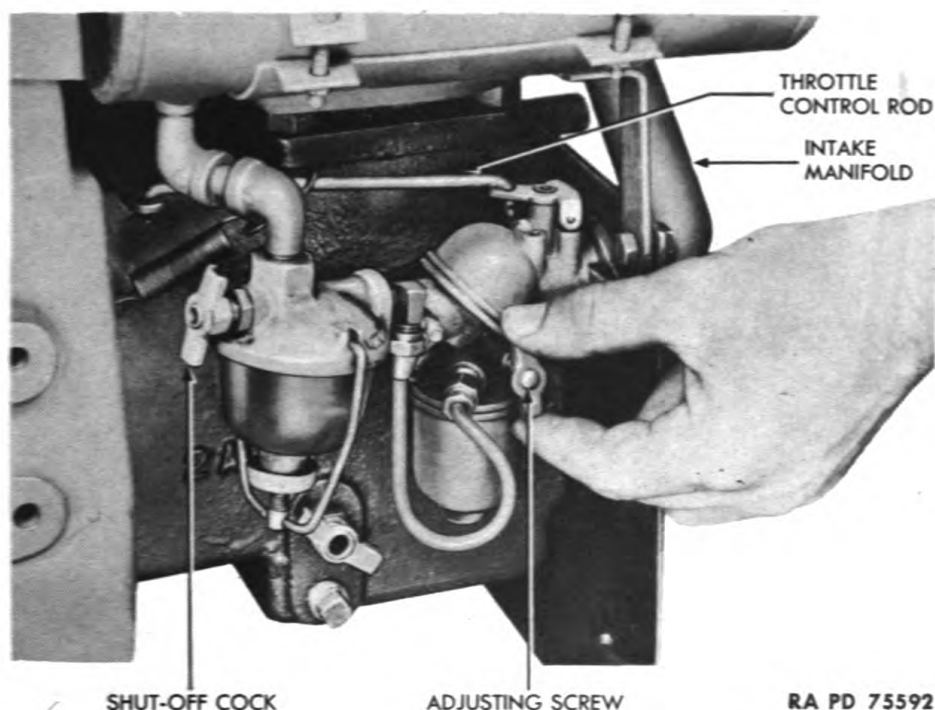

Figure 80 — Adjusting Diaphragm Pump Engine Carburetor
(1) ADJUSTMENT OF CARBURETOR (fig. 80).
(1) Place engine on frame to rear of normal position. Push engine forward, toward gear box, until splined shaft is engaged and the hold-down bolt holes of engine and frame are alined.
(2) Install the four cap bolts, lock washers, and nuts which secure engine to frame.
(3) Install the three lock washers and cap screws which secure engine to gear box.
g. Removal of Carburetor (fig. 80).
(1) Disconnect throttle control rod from carburetor. Use pliers to remove cotter key.
(2) Turn off shut-off cock on fuel filter and disconnect gasoline line from carburetor.
(3) Remove the two carburetor-to-manifold stud nuts and lock washers.
(4) Lift carburetor and gasket from intake manifold.
h. Installation of Carburetor (fig. 80).
(1) Place gasket and carburetor in position on intake manifold, and install the two carburetor-to-manifold lock washers and stud nuts.
(2) Connect throttle control rod to carburetor throttle lever. Use new cotter key.
(3) Connect gasoline line to carburetor.
(4) Open shut-off cock on fuel filter and inspect installation for leaks.